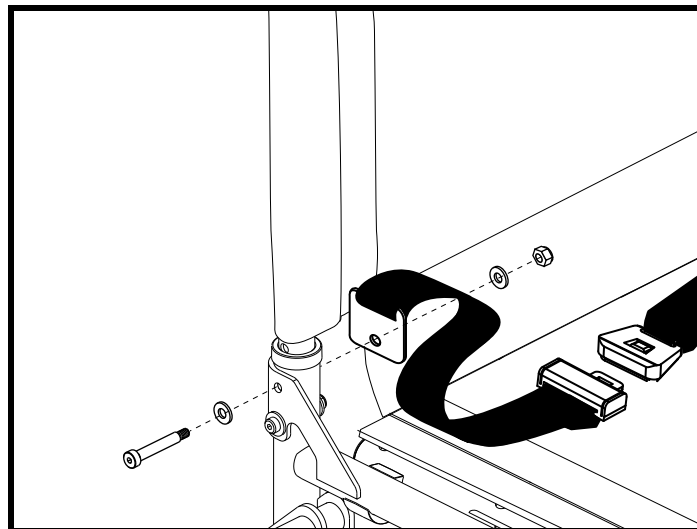

Figure 35. Positioning Belt Installation
Your wheelchair may be equipped with a positioning belt that can be adjusted for operator comfort. See figure 35. The positioning belt is designed to support the operator so that he/she does not slide down or forward in the seat. The positioning belt is not designed for use as a restraining device in a motor vehicle.
1. Remove the screws on both the left and right seat canes. See figure 35.
2. Insert the screws that were removed in step 1 through the bracket and then through the seat canes on each side of the wheelchair seat. See figure 35.